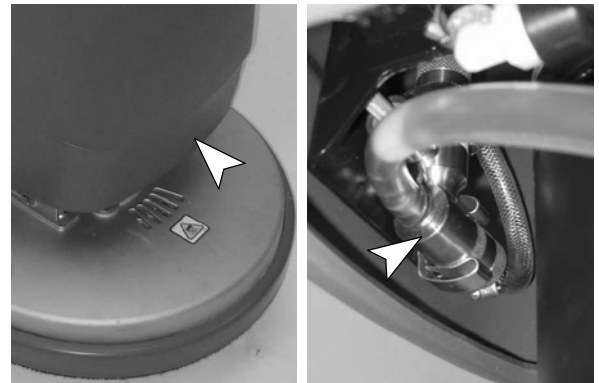

FIG. 69
2. Lower the scrub head and remove the detergent injector from spring clamps (Figure 69).